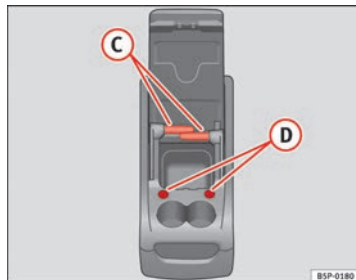

Fig. 115 Mobile storage compartment. Functions
To use the table (C) ⇒ Fig. 115, it must be removed from its compartment in the side of the mobile storage compartment and fitted into slot (D) ⇒ Fig. 115 on the front section of the mobile storage compartment.